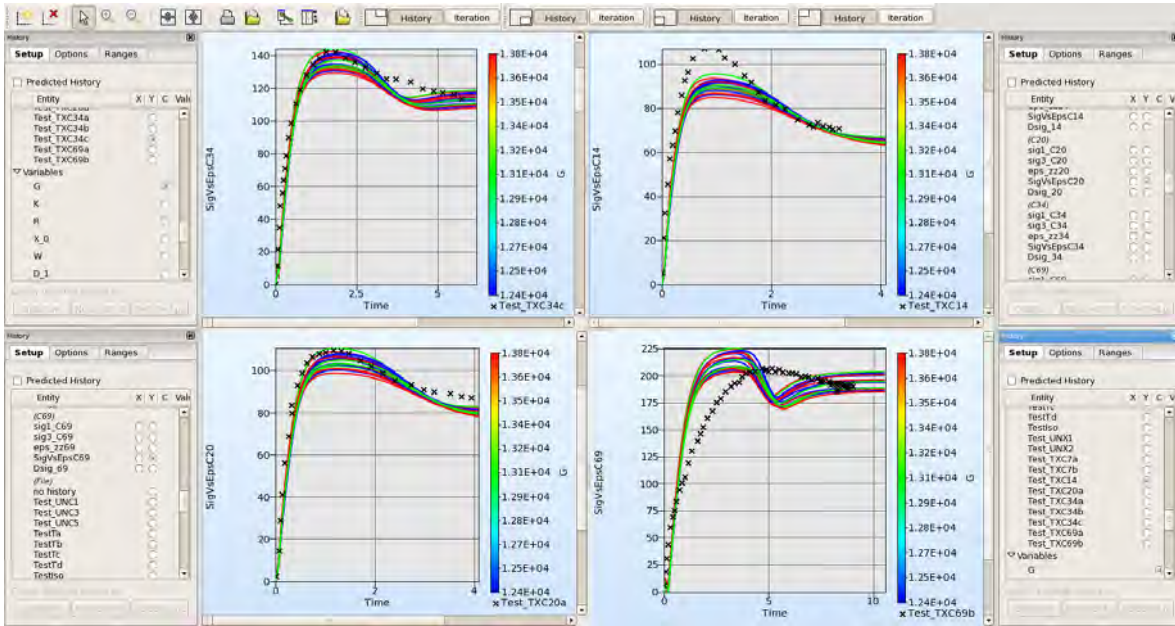

Figure 7-5: Multi-window plot of computed histories for a parameter identification problem (selected
4. Histories. Both computed (Figure 7-5) and predicted (i.e. interpolated) histories (Figure 7-6) can be displayed. The histories can be color-highlighted with variable values, feasibility and iteration number. Clicking a history plot will bring up the parameter list for the selected design.